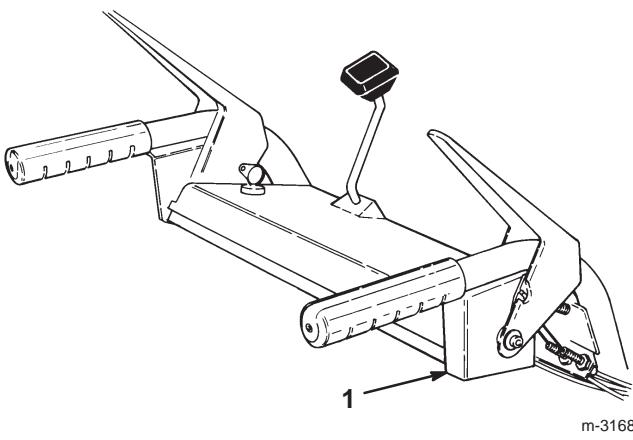

Figure 1
1. Remove (2) screws securing lever cover to right handle (Fig. 1).